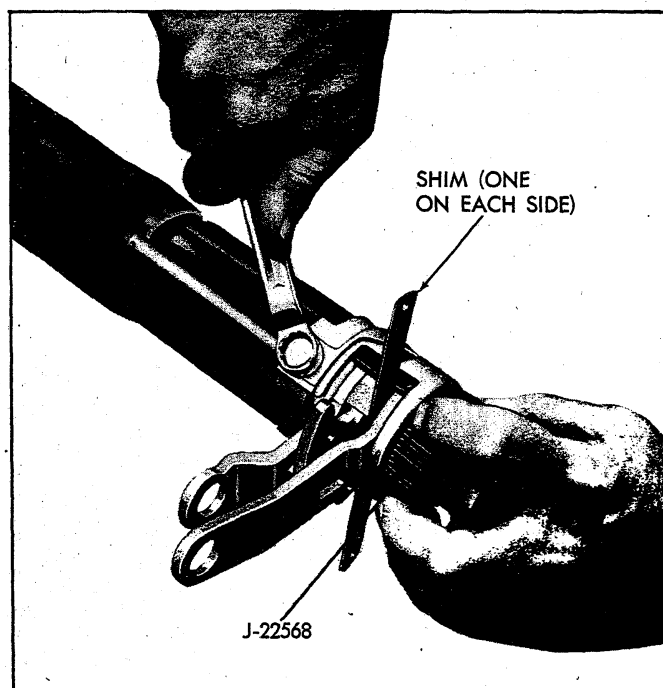

Fig. 31—Bottoming Shift Levers Using Spanner Wrench J-22568
6. Place a 0.005 maximum shim on each side of the shaft, between either one of the shift levers and the spacer (fig. 31).
7. Using spanner wrench J-22568 installed in spanner holes in adapter, rotate the adapter clockwise until the shift levers are bottomed out (fig. 31). Bottom the adapter against the jacket while rotating to remove end play.